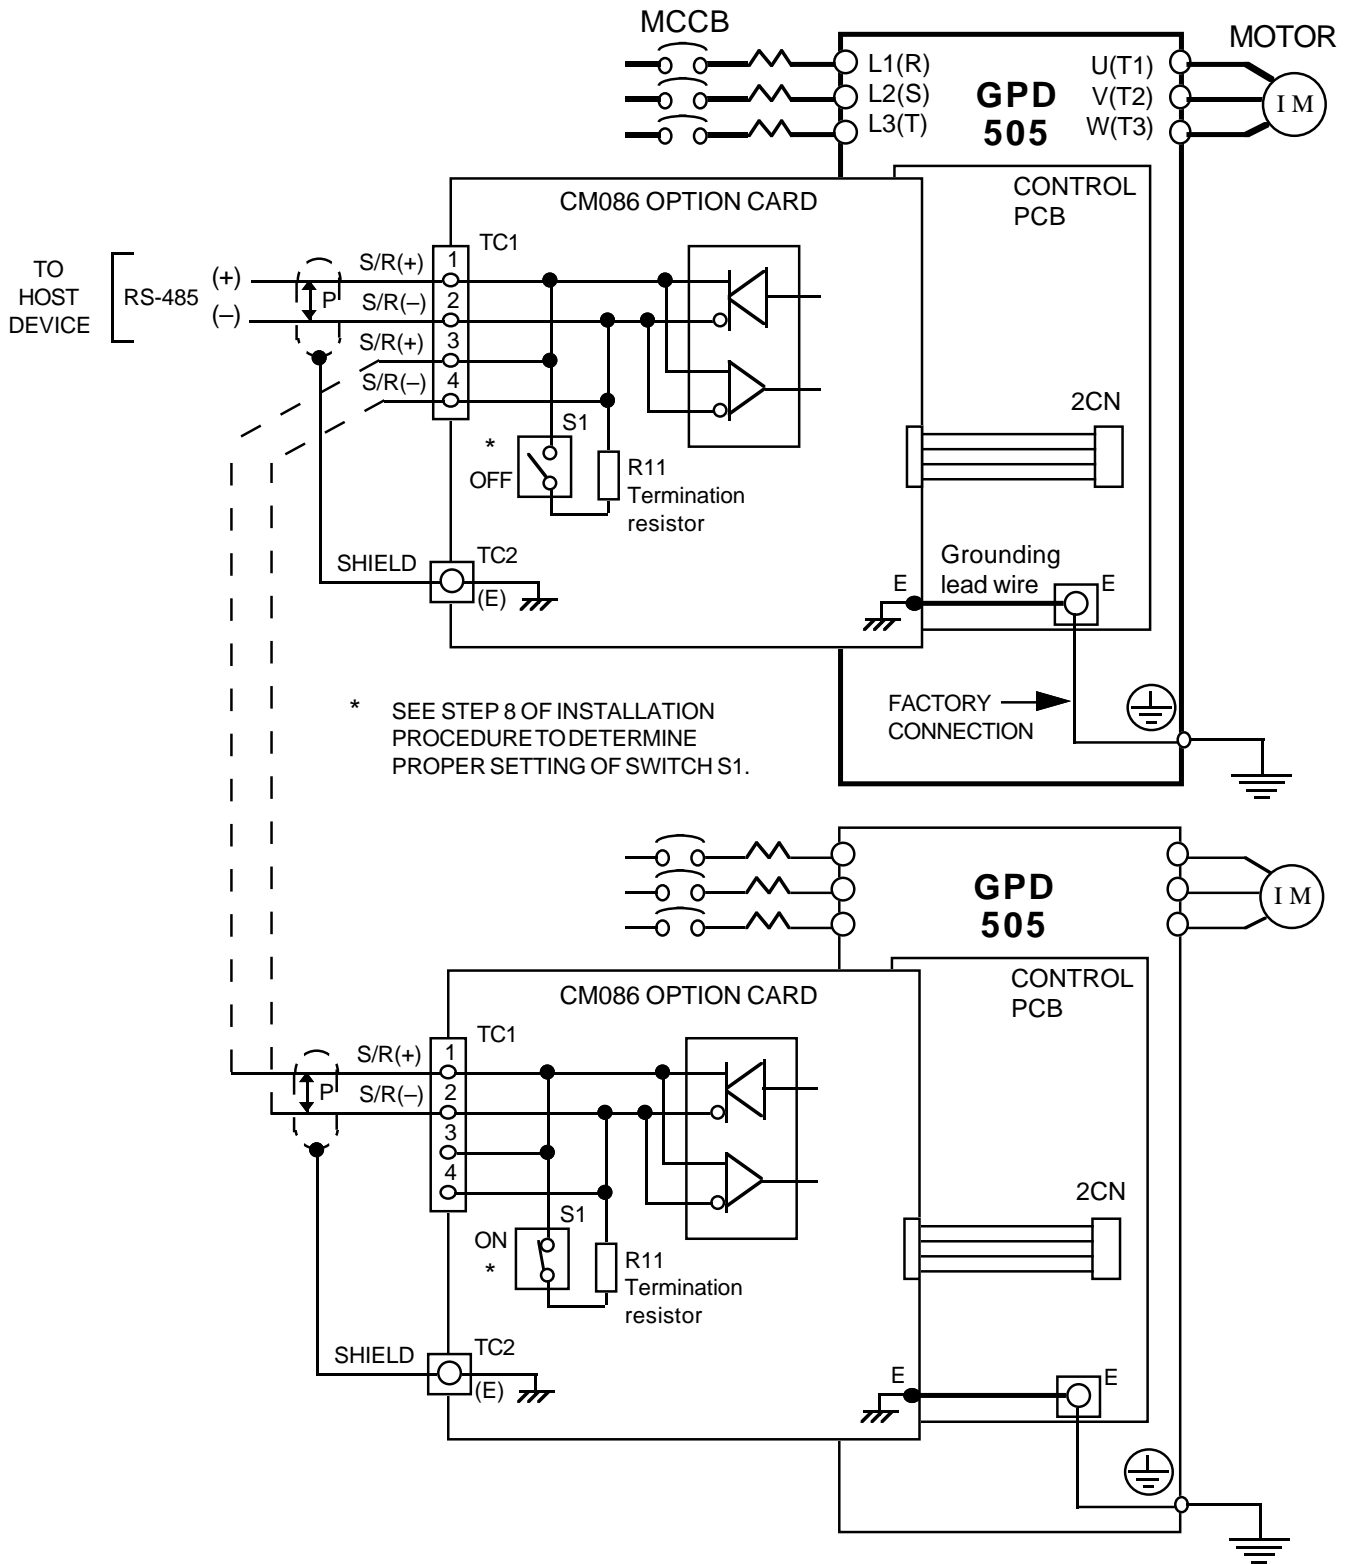

Figure 3. CM086 Interconnection Diagram
7. **Wiring.** Refer to Figure 3 and Tables 1 & 2. Make wire connections between the CM086 card and the external (host) device with which the Drive will be communicating, using shielded twisted pair wire. If multiple Drives (with RS-485 Interface cards) are to be connected to the same external device, they must be connected in series – the second, third, etc. through the final Drive are all “daisy-chained” to the first Drive. Observe the following while wiring: